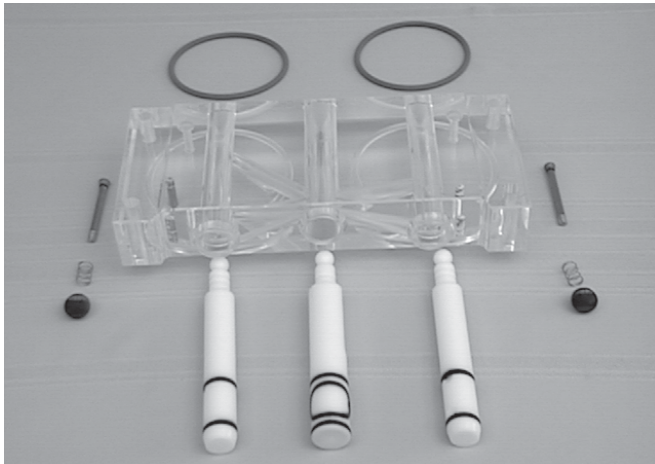

Figure 13. Front Door Disassembly
3. Remove the spigot through the bottom of the front door (see Figure 13). Remove all O-rings from spigots and air bleed valve.